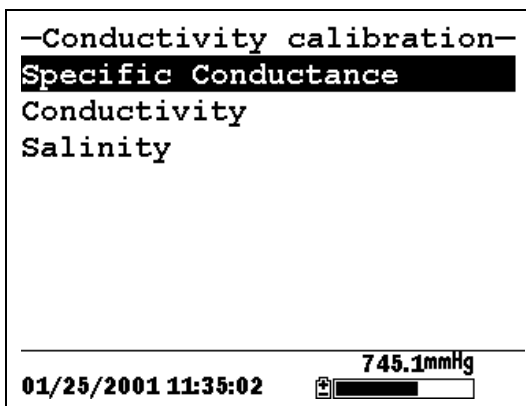

Figure 6.3 Conductivity Calibration Selection Screen
14. Press **Enter**. This returns you to the Conductivity Calibrate Selection Screen, See Figure 6.3 Conductivity Calibration Selection Screen.